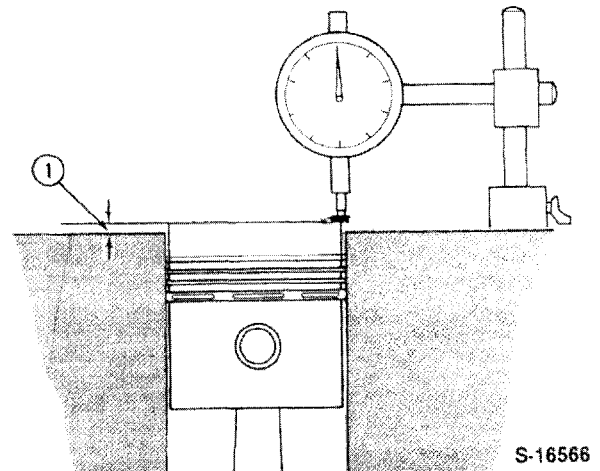

Figure 28
1. Position each of the pistons at top dead center and using a dial indicator, determine the distance each piston projects above the face of the block, Figure 28.